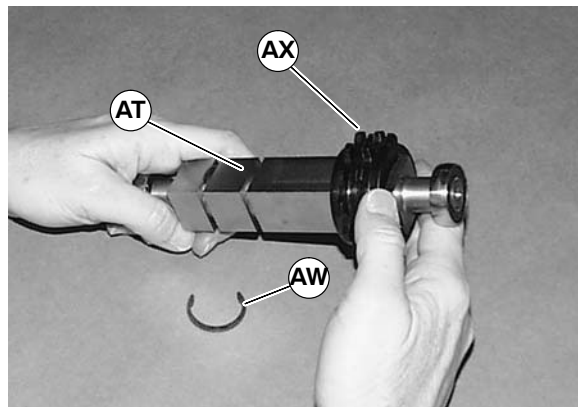

Figure 32
4. Remove snap rings (AW of Figure 32). Slide drive sprocket (AX) off the end of pulley (AT).